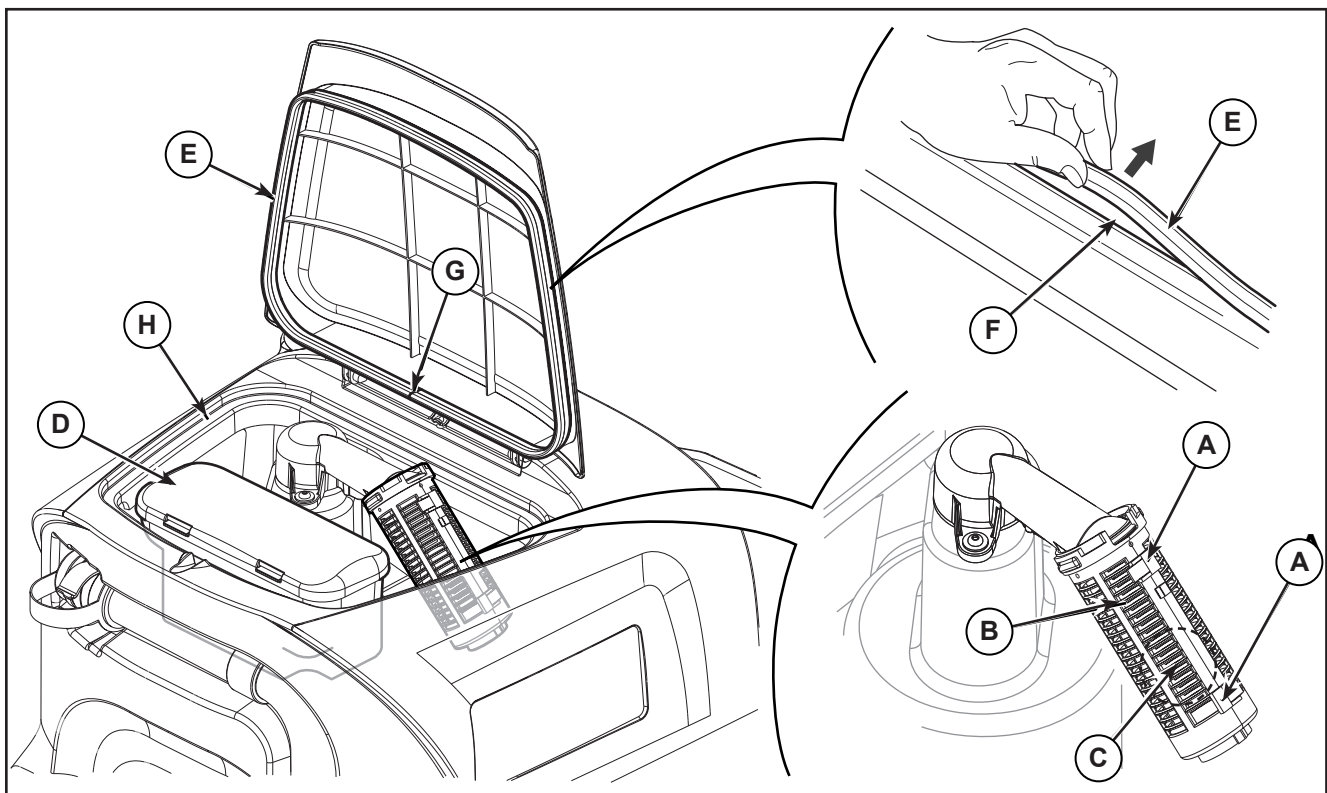

Figure 4:
4. Clean the vacuum grid (B) (Figure 4), release the fasteners (A), open the grid (B) and recover the float (C), then clean carefully and reinstall.
5. Remove the debris collection tank (D) and open its cover, then clean it carefully.
8. Check the condition of the tank cover gasket (E).
**Note:** The gasket (E) creates the vacuum in the tank that is necessary to vacuum up the recovery water.
9. If necessary, replace the gasket (E) by removing it from its housing (F). When fitting the new gasket, position the joint (G) in the area shown in the figure.
10. Check that the seating surface (H) of the gasket (E) is in good condition, clean and suitable to form a seal with the gasket itself.